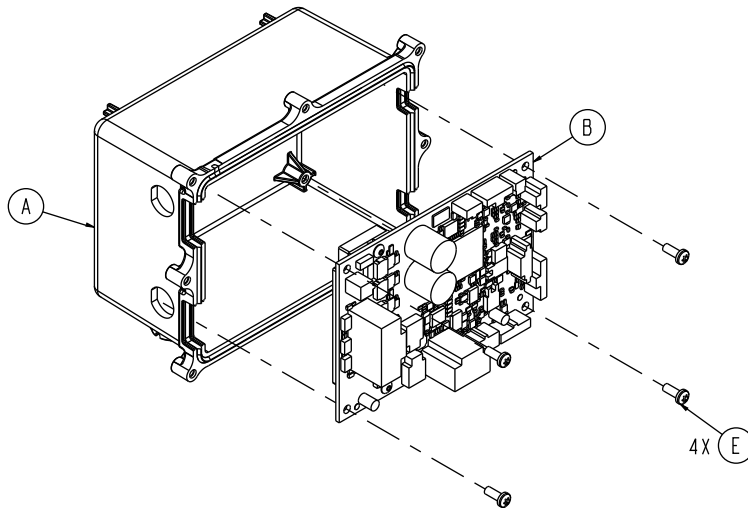

Figure 41 – Remove the HBC board screws
12. Using a T20 Torx driver, remove the four pan head tapping screws (E) that secure the HBC board (B) to the HBC board enclosure assembly (A) (Figure 41). Discard the HBC board.